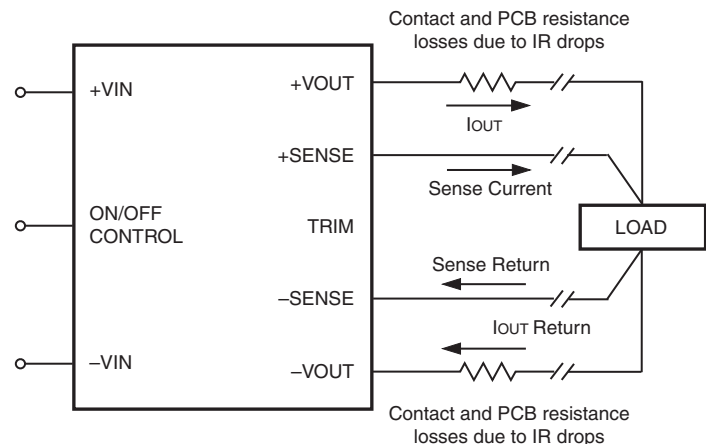

Figure 4. Remote Sense Circuit Configuration
**Positive** ("P" suffix) logic models are enabled when the On/Off pin is left open or is pulled high (see specifications) with respect to the -Input as per Figure 4. Positive-logic devices are disabled when the on/off pin is pulled low with respect to the -Input.